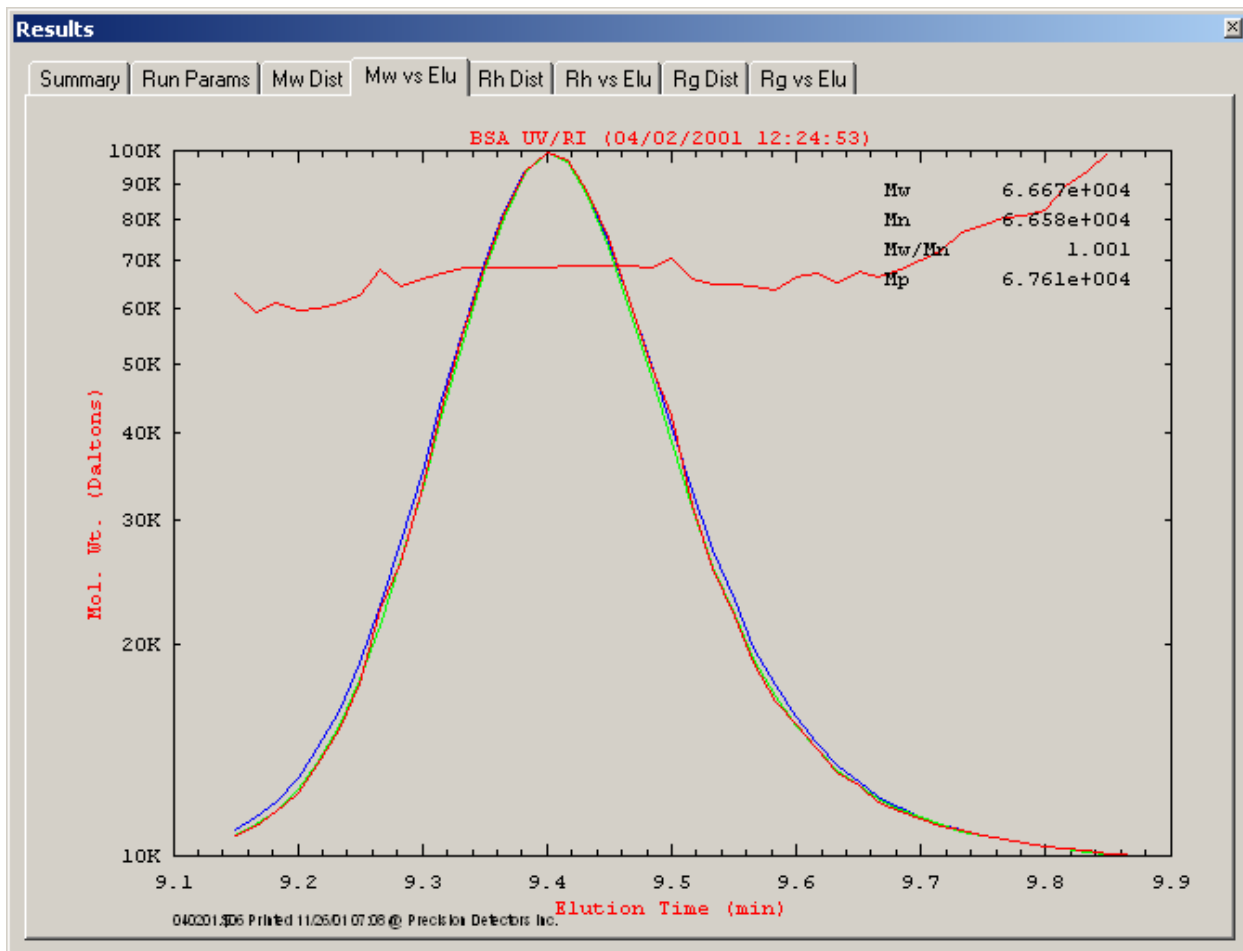

Figure 6-20: Mw Chromatogram
e) Click the *Mw vs. Elu* tab to present a chromatogram which presents the *Mw* as the ordinate (Figure 6-20). Similar chromatograms for *Rh* and *Rg* can be viewed via the corresponding plots.